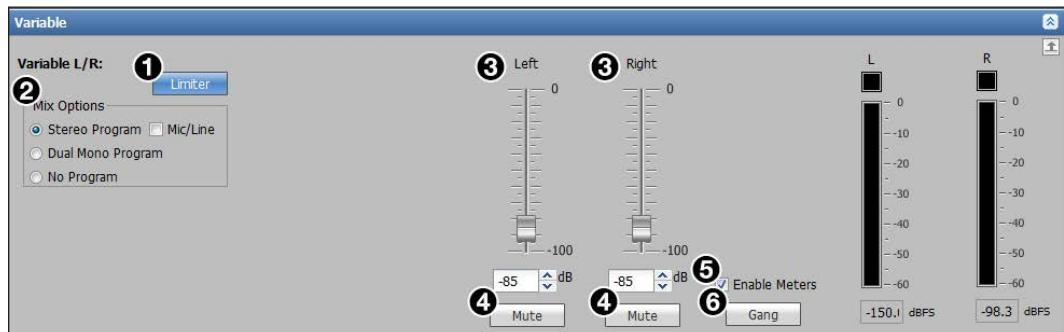

Figure 77. Variable Analog Audio Output Section
2. If desired, deselect the **Mic/Line** check box (see **figure 77**, ② on page 109) to not include the mic/line inputs in the amplified output (this is selected by default).
3. In the Mix Options panel (see **figure 77**, ②), click the desired radio button: